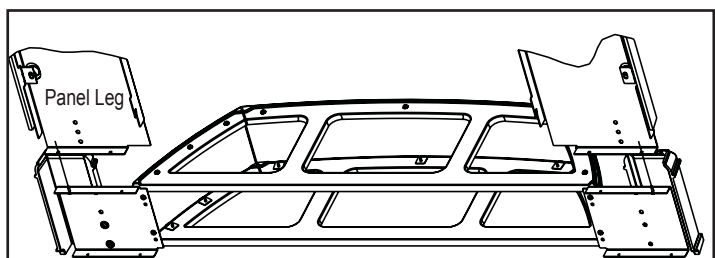

Figure 20.7
8. Place the assembled hearth support under the insert. **Figure 20.7.**